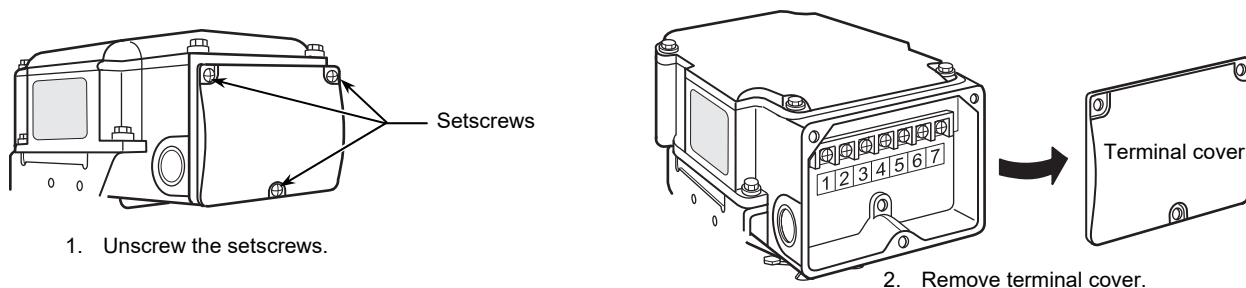

Figure 6. Terminal cover removal
- 2) Unscrew the 3 setscrews ( $M4 \times 10$ ) of the terminal cover and remove the terminal cover, as shown in Fig. 6.